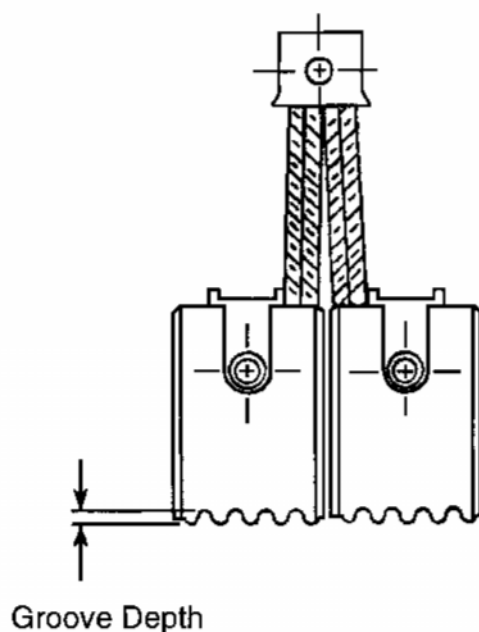

Figure 8 - Calculating Commutator Groove Depth
- (4) Calculate the depth of grooves by measuring the corresponding protrusions on the brushes. (See Figure 8)